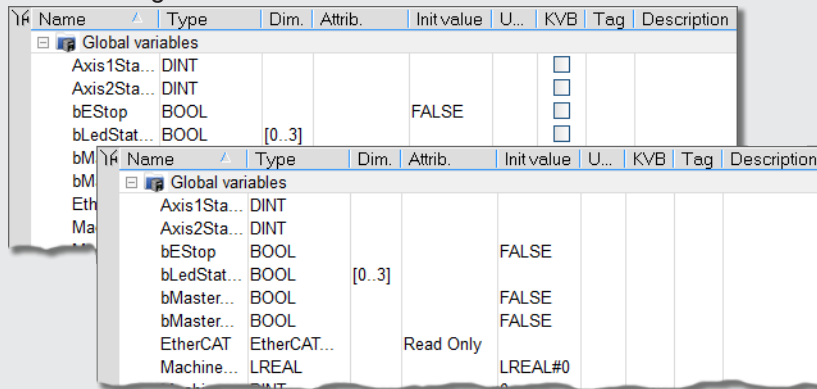

Figure 4-4: Example: Other Modbus Devices
- If Other Modbus devices is selected, the KVB checkbox for Dictionary items is hidden. (Figure 4-4)